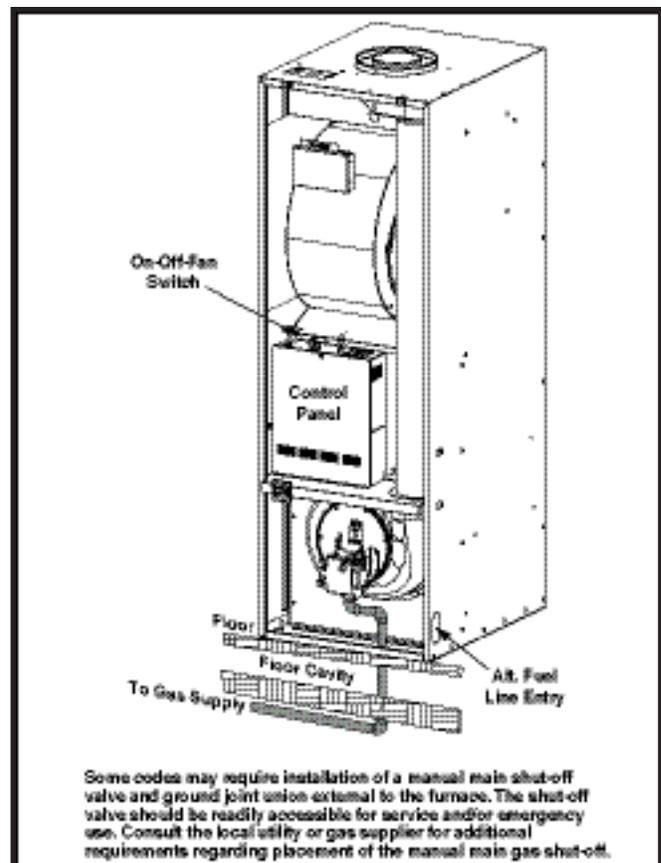

Figure 28. Typical Gas Piping
This furnace may be installed with left, right, or bottom gas entry. When connecting the gas supply, provide clearance between the gas supply line and the entry hole in the furnace casing to avoid unwanted noise and/or damage to the furnace. Typical gas service hookup for this furnace is shown in Figure 28.
- Some local regulations require the installation of a manual main shut-off valve and ground joint union external to the furnace. See Figure 28. The shut-off valve should be readily accessible for service and/or emergency use. Consult the local utility or gas supplier for additional requirements regarding placement of the manual main gas shut-off.
- Fuel line installations other than typical installations shown in Figure 28 must comply with the fuel piping provisions stated in the Federal Manufactured Home Standard (H.U.D. TITLE 24, PART 3280) and the National Fuel Gas Code (ANSI-Z223.1/NFPA-54).
This furnace can be converted from factory-equipped natural gas to liquid propane gas. Conversion of this valve requires replacement of the burner orifice and flipping the regulator cap to the side marked LP. The orifice required for conversion is supplied with the furnace. See Figure 28.
1. Remove the inlet pressure plug from the INLET side of the gas valve with a 3/16 Allen wrench. See Figure 28.